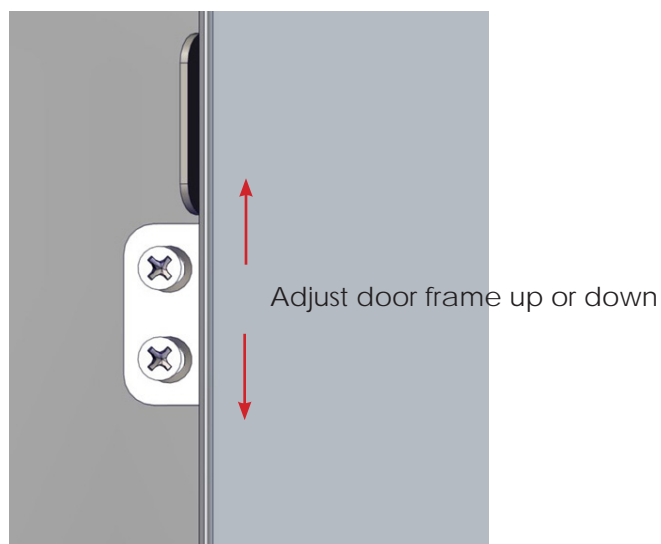

Fig. 22: Adjust Door Up or Down
2. Move the door up or down (up to 1/4" in either direction) to align one door frame with the other (Fig. 22). Use a level to ensure the door frames align properly.